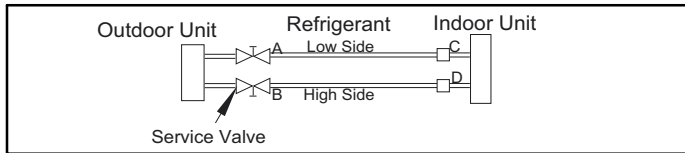

Figure 13 – Service Valve
1. Completely tighten flare nuts A, B, C, D, connect manifold gage charge hose to a charge port of the low side service valve. (See Fig. 13.)